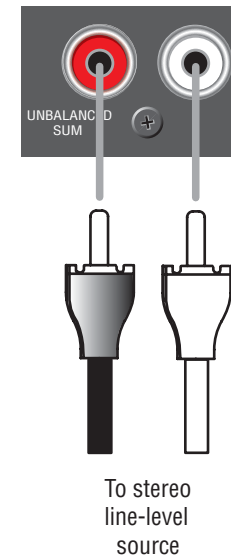

Figure 2.4 Dual RCA Input Connectors
- **Dual RCA Input Connector (other channels):** For stereo music signals, unbalanced, summed together, two connectors per input (Figure 2.4).